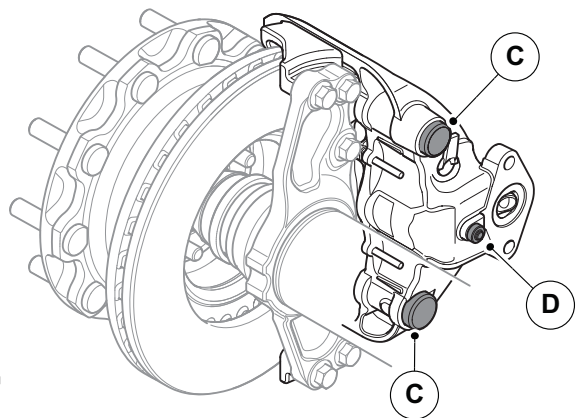

Figure 20. The three protection cups
5. The three protection cups; two for slide pin protection (C) and one for the mechanism (D), see figure 20.
**Never remove the protection plug (B) and protection cup (D) on figures 20 and 21. If the protection plug (B) is removed it will void warranty and will compromise the life of the disc brake!**